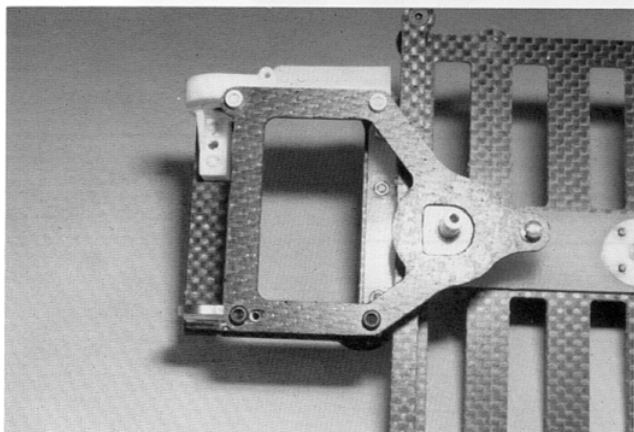

Fig. 34
□ **Fig. 34**—Install the bracket onto the bulkheads, as shown. Make sure you install the steel screws into the aluminum bulkhead. DO NOT ever install aluminum screws into the aluminum bulkhead. They will be impossible to remove or fasten securely. Install the aluminum screws in the plastic bulkhead. Do not overtighten.